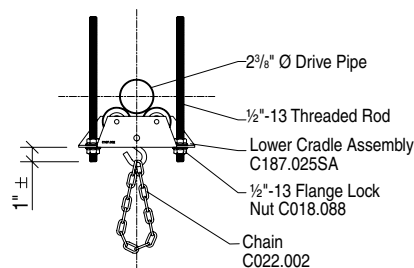

Figure 1
- ① Verify overall height and width with shop drawing to determine possible discrepancies.
- ② Attach winch support brackets to winch housing and install winch per location shown on shop drawing.
- ③ Install drive pipe support assembly (typically Z-Bracket and Flange Clamps) per locations shown on shop drawing.
- ④ Attach drive pipe support assemblies to Z-Bracket with threaded rod. Adjust assemblies vertically to proper height shown on shop drawing (see Fig. 1).
- ② In the down position make sure limit has been set to allow the fabric build up to be fully extended.
- ③ There are two basic vertical adjustments to this divider. One is the threaded rods attaching the drive pipe support assemblies to the drive pipe support angles. The other is the chain from the drive pipe support assembly to the top of the curtain (see Fig. 1).
- ④ If the belt tends to runoff in one direction when the curtain rolls up, instead of stacking up in a uniform pile, shim the belt within the pre-wrap (pre-wrap is described in steps 11-12 above.) To shim: cut a 1/2" wide piece of belt from your excess belt. Unroll the curtain all the way and disengage down limit to expose pre-wrap on the drive. Position the 1/2" piece under an edge of pre-wrap (use the edge opposite the direction of runoff) and secure with double face tape. Roll the curtain back up a few turns to cover the pre-wrap and reset the down limit switch. Then continue rolling the curtain up. Repeat as necessary. No two curtains behave the same, so this is a trial and error procedure.